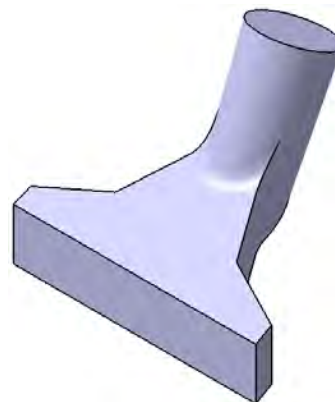

Figure 5-82 Model after creating the fillet
3. Choose the **OK** button from the **Edge Fillet Definition** dialog box. The model, after creating the first set of fillet, is shown in Figure 5-82.